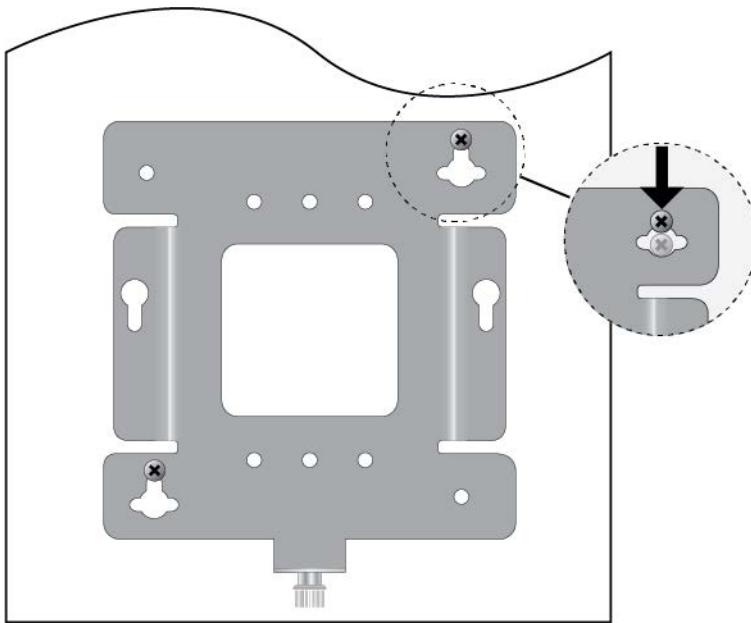

Figure 20. Installing the Mount Bracket On the Screws
6. Insert the openings of the bracket key-hole slots under the two screw heads and slide the bracket into the narrow end of the key-hole slot openings. See Figure 20.